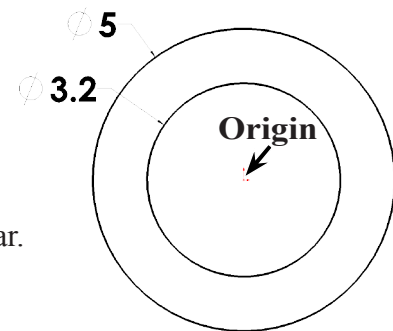

Fig. 2
Step 3. Click **Circle**  (S) on the Sketch toolbar.
Step 4. Draw two circles starting at the Origin , **Fig. 2**.
Step 5. Click **Smart Dimension**  (S) on the Sketch toolbar.
Step 6. Dimension circle **diameters 3.2 and 5**, **Fig. 2**.